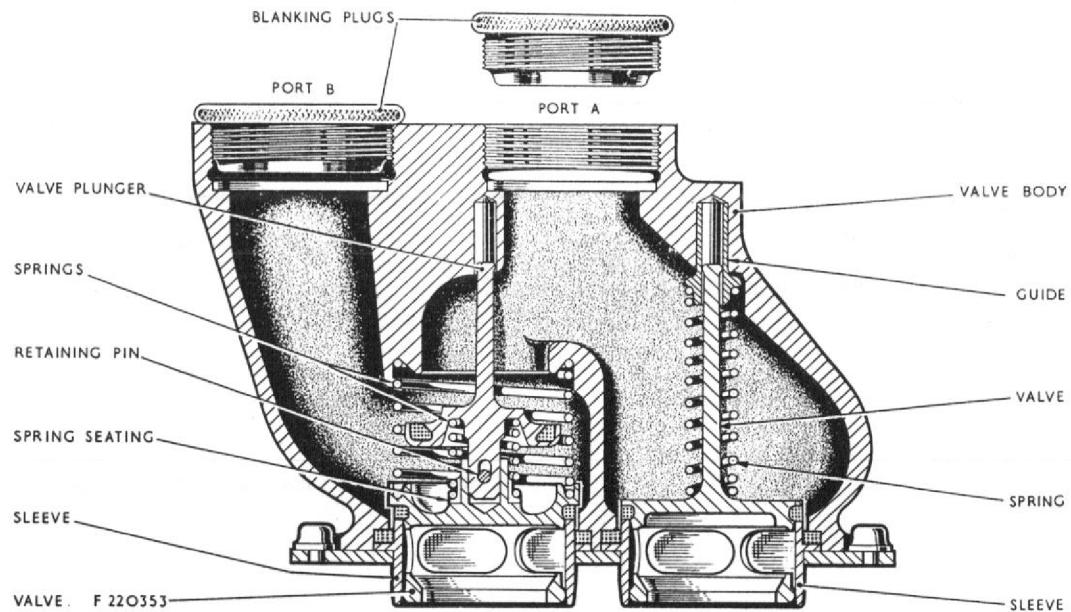

Fig. 9A Fuel and air valve for outboard pylon
**Fuel and air valve for outboard pylon (fig. 9A)**
- (1) Blank off port 'B', apply an air pressure of  $5\text{lb/in}^2$  to port 'A' and immerse the unit in paraffin for 2 minutes. Increase the pressure to  $20\text{lb/in}^2$  and immerse for a further 2 minutes. The unit must be leak proof.
- (2) Remove the blanking plug from port 'B', raise the valve (Part No. F.220353) by 0.65 in. (using tank adapter Part No. A.206906 with suitable blanking cap) and apply a pressure of  $3\text{lb/in}^2$  to the port 'A'. There should be no leakage at port 'B' when the unit is immersed in paraffin.